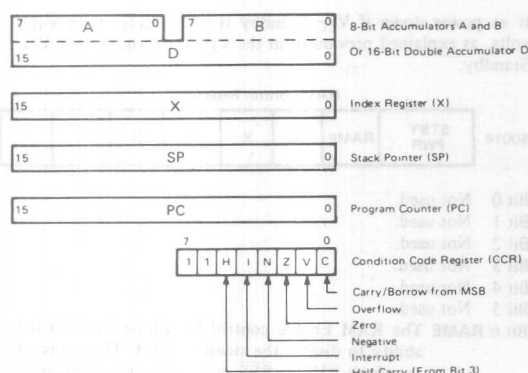

Figure 15 CPU Programming Model
- CPU Programming Model—Figure 15.
The programming model for the HD6803 is shown in Figure 15. The double (D) accumulator is physically the same as the Accumulator A concatenated with the Accumulator B so that any operation using accumulator D will destroy information in A and B.